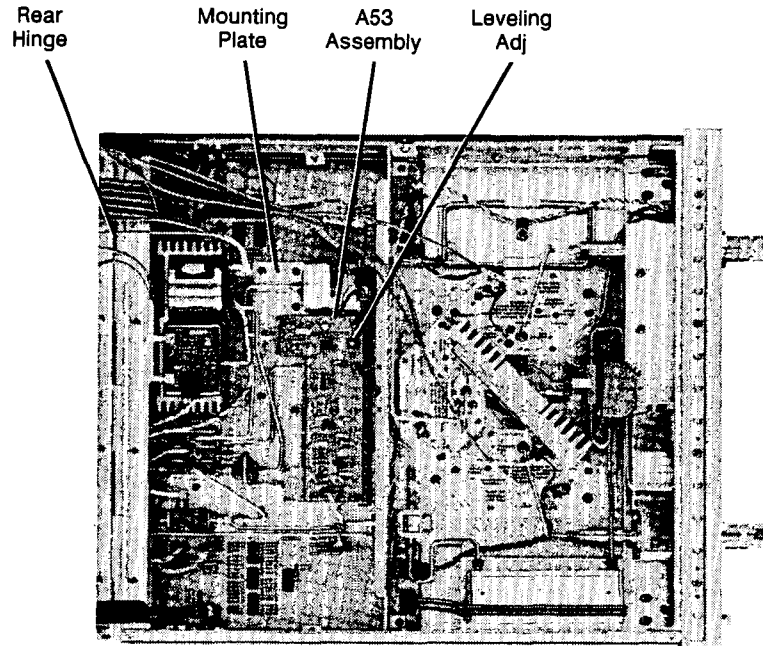

Figure 13. Location of LEVEL ADJ Adjustment
6. Adjust LEVEL ADJ (see Figure 13) to within 0.5 dB of the power peak above 2 GHz (column 4). Note the reading in column 2.